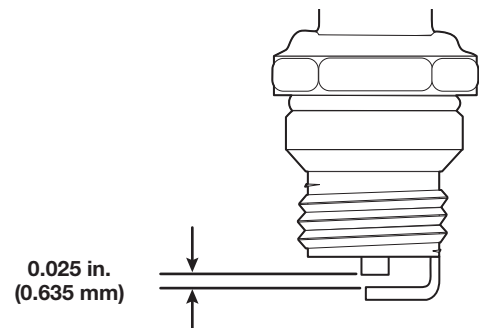

Fig. 35
6. Use a feeler gauge to set the air gap at **0.025 in. (0.635 mm)** (Fig. 35).